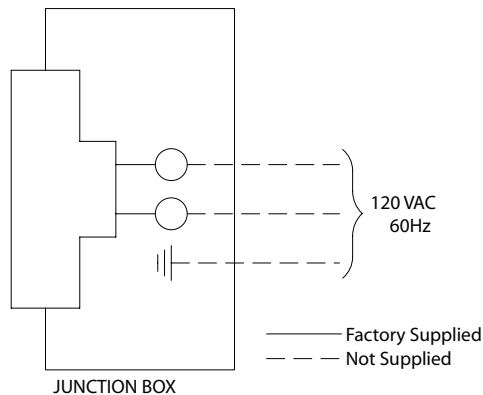

Figure 27 - Junction Box Wiring Diagram
9. Consult blower wiring diagram and start the assembly. It is helpful to wire the right blower, the speed control, the fan limit switch, and the power cord first. Then plug in the power cord to the junction box and secure the right cover plate/blower assembly to the side of the firebox. See Figure 27 & 27a